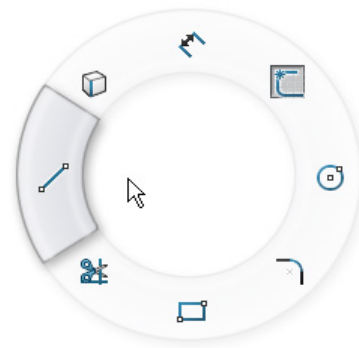

Figure 3-70 Line button in mouse gesture
- Choose the **Line** button using the mouse gesture, refer to Figure 3-70 and then move the cursor to the left endpoint of the upper horizontal line. Click to specify the start point of the line when the orange circle is displayed.